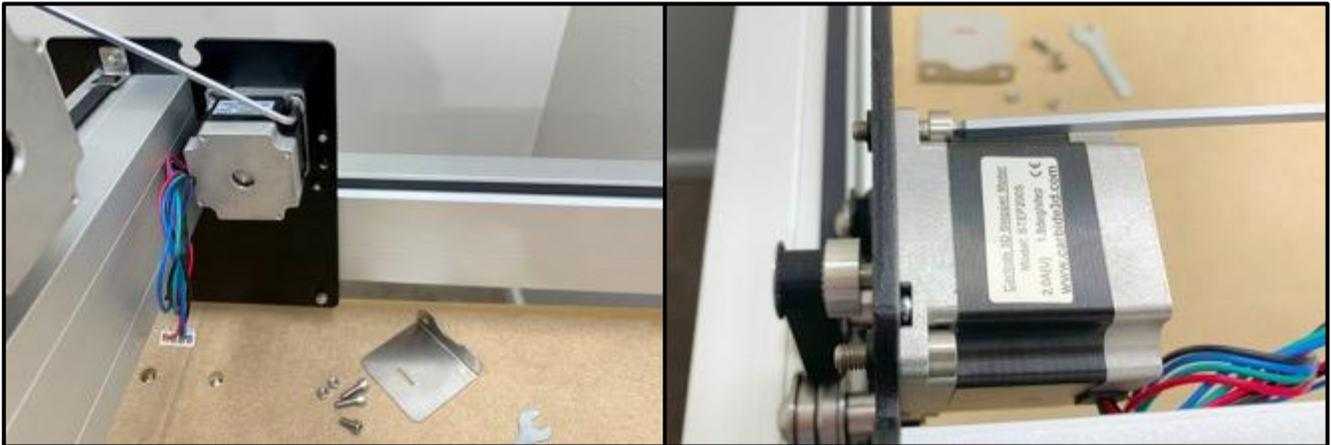

Figure 6-6
NOTE: To accommodate the other two sizes of Shapeoko machines, the Y1-motor is mounted to the Y1-carriage with four (4) M5x10mm socket head cap screws. However, to attach the drag chain head bracket to the Shapeoko XXL, the top two (2) motor-mount screws will need to be replaced by two (2) longer M5x16mm socket head cap screws. Once replaced, the shorter screws will no longer be needed. See *Figure 6-6*.
Use the 4mm hex key to remove the top two (2) M5x10mm socket head cap screws mounting the Y1-motor to the Y1-carriage plate and replace them with the longer two (2) M5x16mm socket head cap screws. See **Figure 6-6**. Once replaced, you will be able to see the screws protruding through the Y1-carriage as shown in **Figure 6-6**.